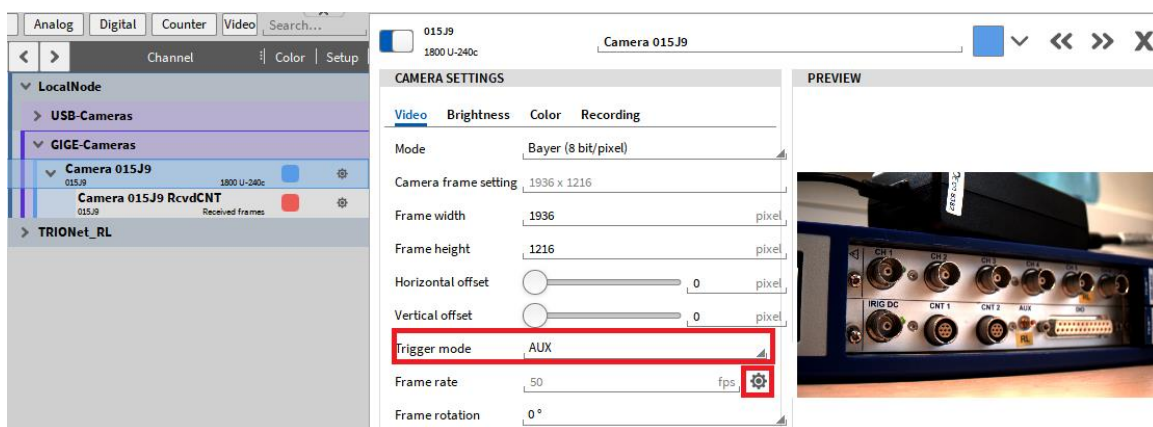

Figure 3-4
- Go to the camera channel setup and switch the *Trigger Mode* to *AUX* (see Figure 3-4).